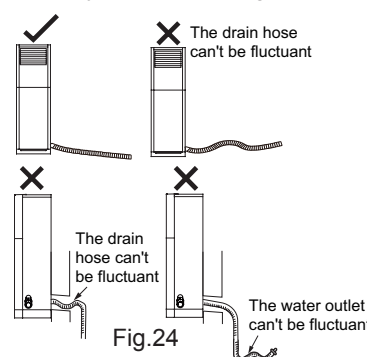

Fig.24
- 2.Slant the drain hose slightly downwards. The drain hose can't be curved, raised and fluctuant, etc. (As show in Fig.24)